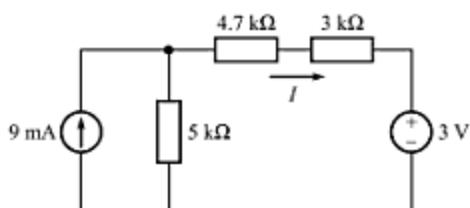

Fig. A-73
- A-32. Compute current *I* in the circuit of Fig. A-73 after transforming the 9-mA current source into an equivalent voltage source. [Ans. 3.307 mA]